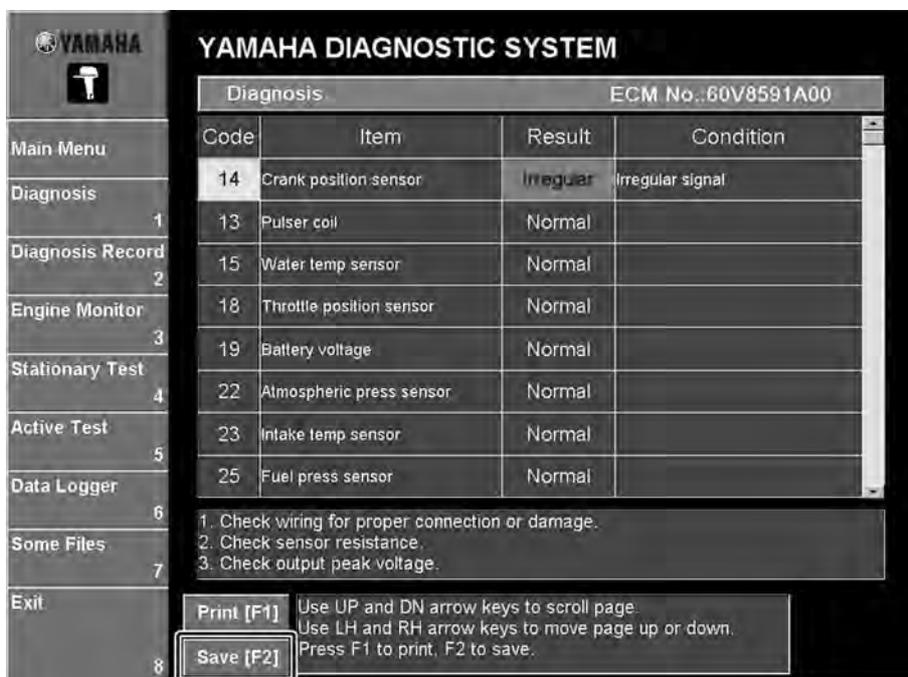

Fig. 37
- Click the **Save [F2]** button or press the F2 key on your keyboard. The **Save As** dialog box is displayed. (Fig. 37)